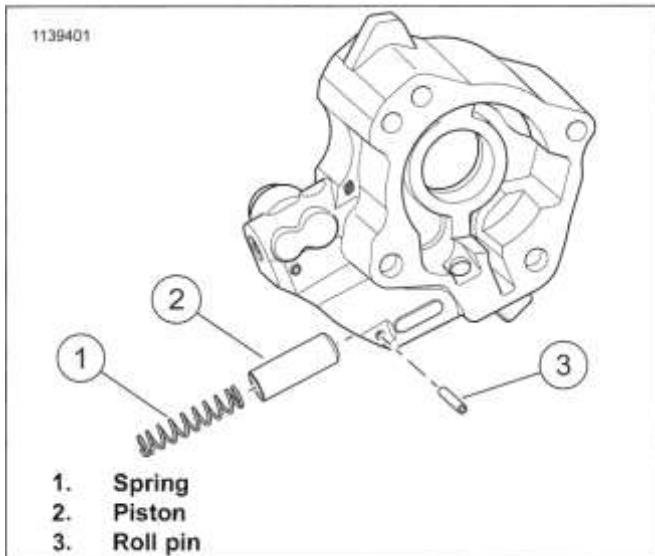

Figure 4-59. Oil Pressure Relief Valve
2. See Figure 4-59. Remove pressure relief valve.
- a. Hold spring (1) compressed.
- b. Drive out roll pin (3).
- d. Remove spring and piston (2).
- a. See Figure 4-59. Apply assembly lube to piston (2) and bore.